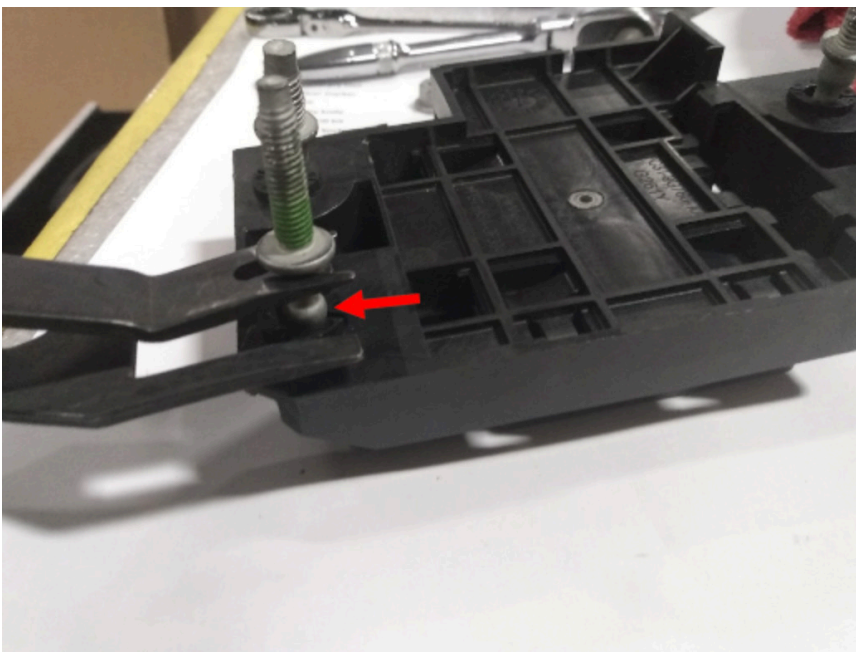

Figure 14
14. Using a panel pry tool, remove the ACC bracket mounting studs from their plastic sockets. Figure 14